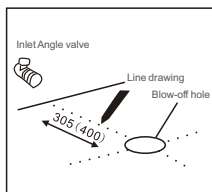
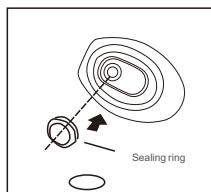

图2
图3
- Construction and installation instructions (Figure 2, Figure 3, Figure 4)